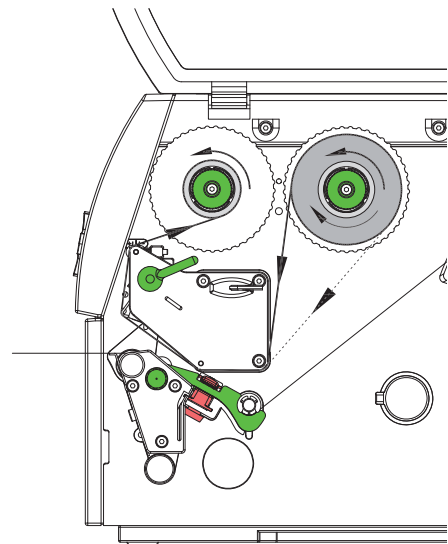

Fig. 11 Transfer ribbon feed path
6. Slide suitable transfer ribbon core (4) onto the transfer ribbon take-up hub (5). Position and secure it in the same way as the supply roll.
7. Guide transfer ribbon through the print unit as shown in Fig. 11.
8. Secure starting end of transfer ribbon to middle of the ribbon core (1) with adhesive tape. When using cores which are wider than the transfer ribbon use the scale (7) at the printhead retainer to adjust the path of the ribbon. Ensure counterclockwise rotation direction of the transfer ribbon take-up hub.
9. Turn transfer ribbon take-up hub (5) counterclockwise to smooth out the feed path of the transfer ribbon.
10. Turn lever (6) clockwise to lock the printhead.